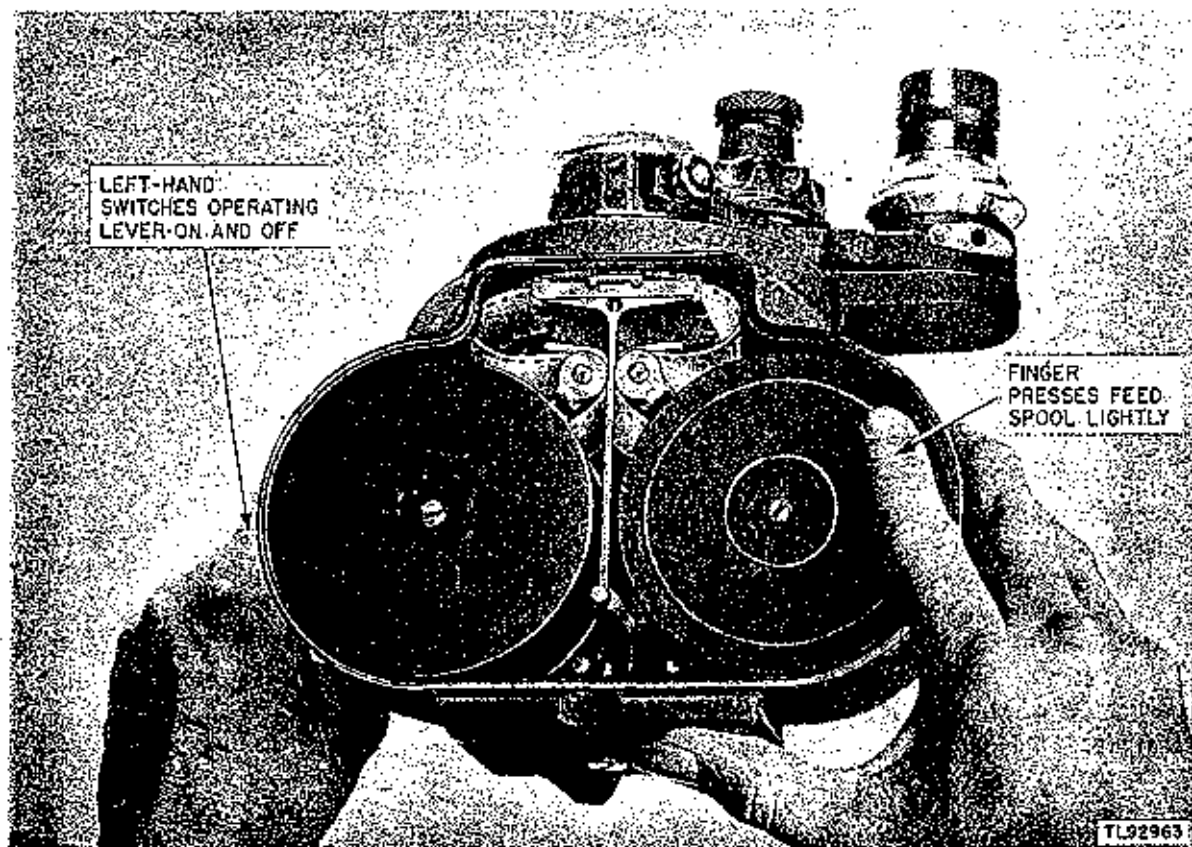

Figure 29. After loading, Camera PH-330-(*): testing for performance.
n. With the camera door still open, quickly press the operating lever on and off (fig. 29). Keep a finger pressed lightly on the feed spool (fig. 29) to prevent backlash and fogging of the unexposed film. If the loops do not buckle or alter their shape during this test run, the camera is threaded properly. Replace the camera door and turn the door latch to the CLOSED position. If the camera door does not fit easily in place on the camera housing, the gate arm is not fully closed.